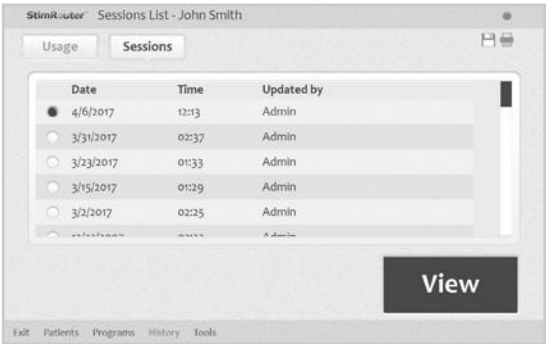

Figure 9-8. Viewing a session.
- 2. Press “History” on the Menu Bar and then press the Sessions Tab, select a session to view, and then press “View” button. See Figure 9-8.